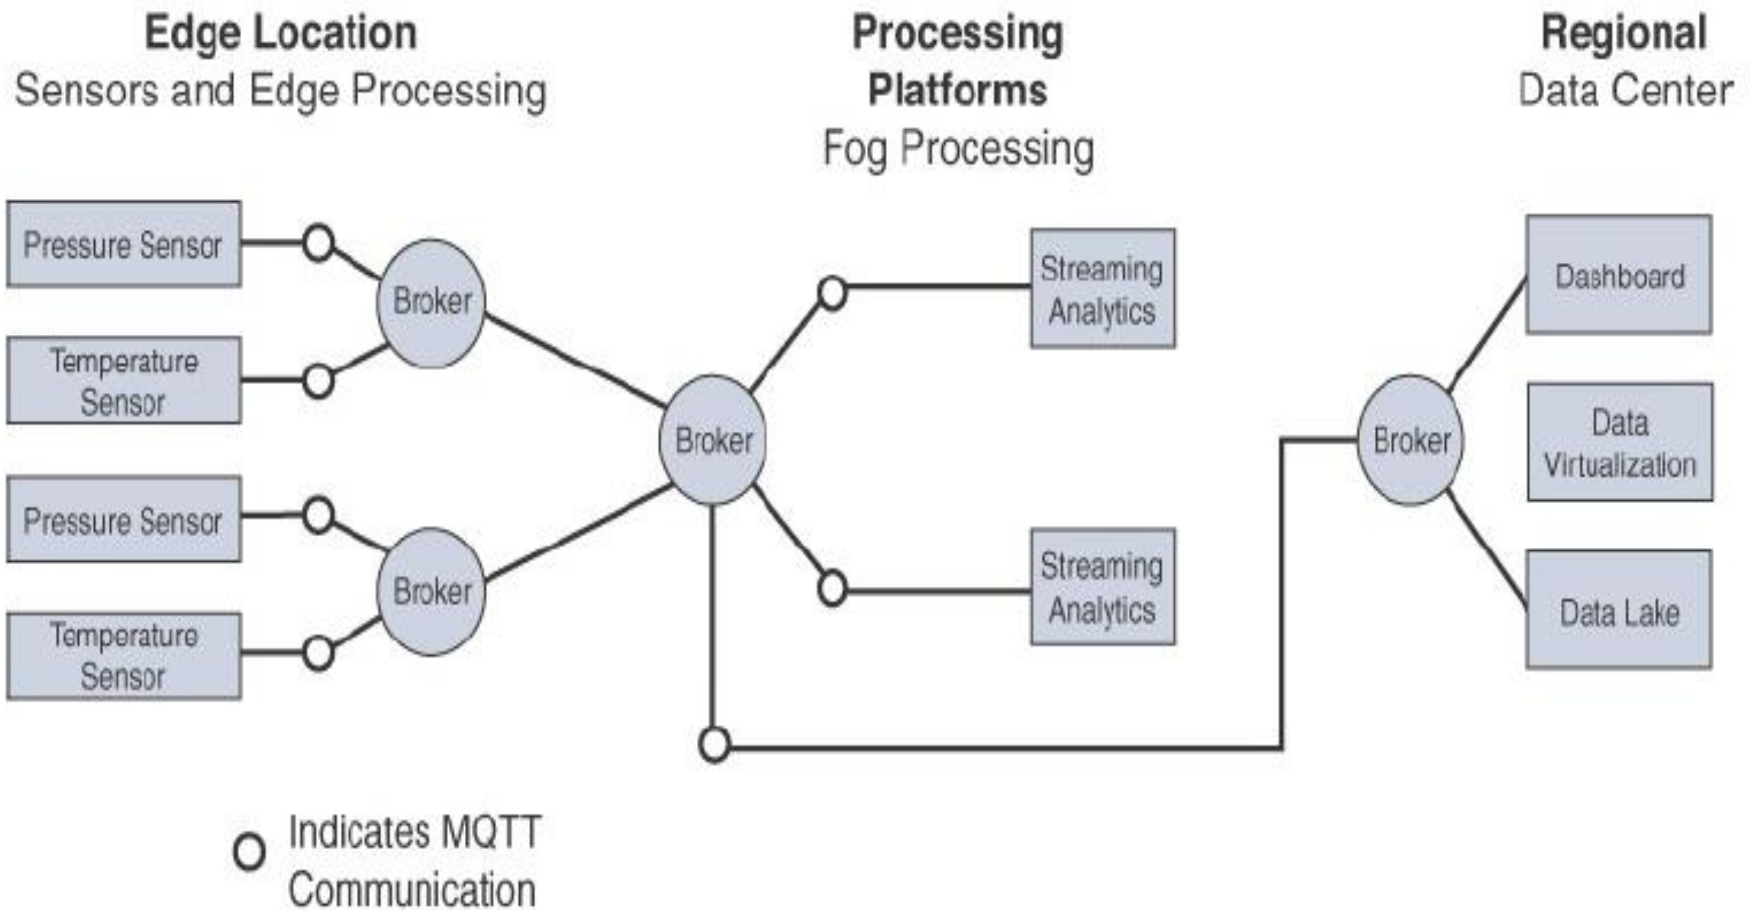

Figure 7.15 : Distributed Analytics Throughout the IoT System
- The figure 7.15 shows an example of an **oil drilling company that is measuring both pressure and temperature on an oil rig.**